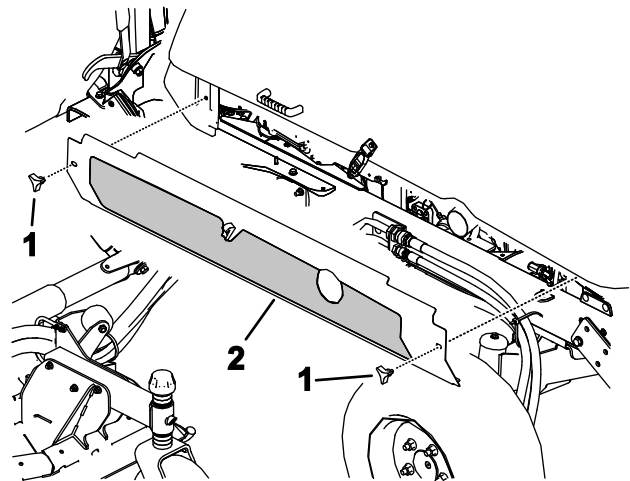

**Figure 107**
2. Remove the three 3 flange screws from each side of the rear bumper as shown in Figure 107.
6. Raise the rear bumper into position and install the flange screws. Tighten all the flange screws securing the rear bumper to the frame (Figure 107).